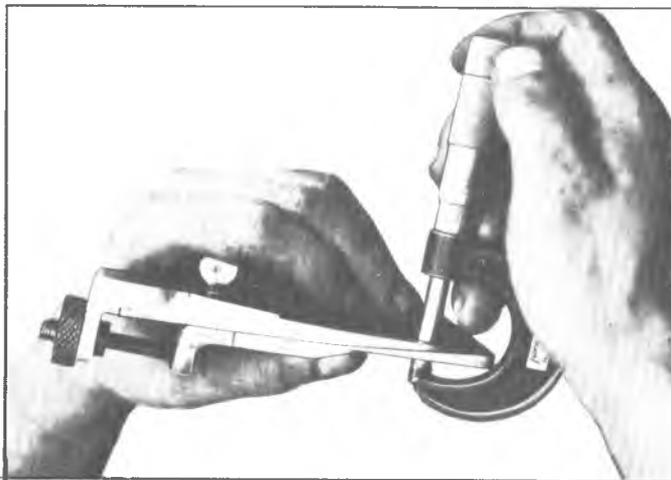

Fig. 8B—Measuring Gauge Plate Thickness
- a. Using a micrometer as in Figure 8B measure the thickness of J-22779 in a minimum of three